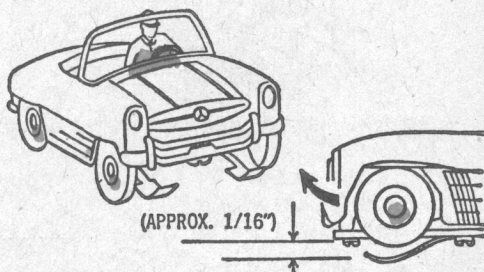

Fig. 53
1. The height of the brushes must be approximately $\frac{1}{16}$ of an inch below the tires (Figure 53).
2. Brush adjustment—Figure 53.